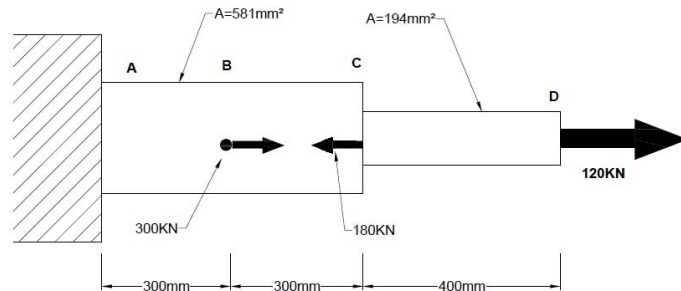

Fig.1
2. (a) Determine the deformation of the steel rod shown in Fig.1 under the given loads ($E = 200 \text{ GPa}$).